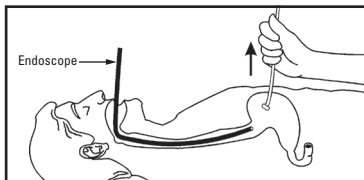

Figure 12
- Pull the PEG tube until the internal bolster sits snugly against the gastric mucosa. Confirm placement endoscopically. Avoid excess tension (Figure 12).